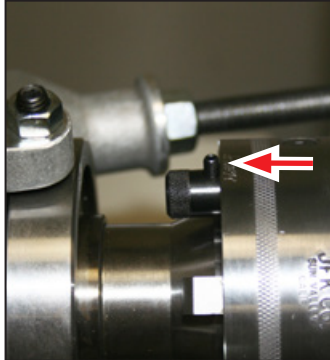

Figure 24
3. Ensure the index pin is in the Pin Out position (see **Figure 24**).
5. Move the Index Pin to the Pin In position (see **Figure 24**) by twisting to release and allowing it to enter the closest hole in the index plate.